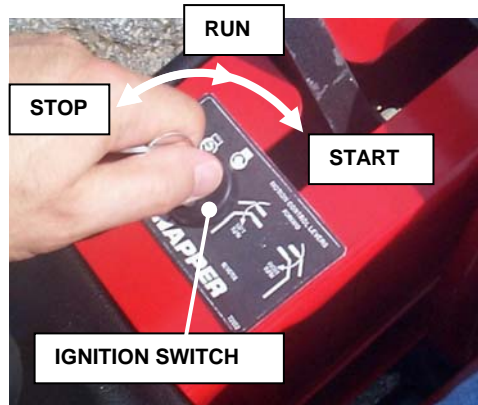

FIGURE 1.2
7. Turn key to "START" position and hold until engine starts. See Figure 1.2. NOTE: If engine does not start after 5 seconds, release key, wait 20 seconds, then attempt starting again. (If engine still fails to start, refer to the troubleshooting section of both mower and engine manuals.)
1. Stop engine by turning key to "STOP" position. See Figure 1.2.